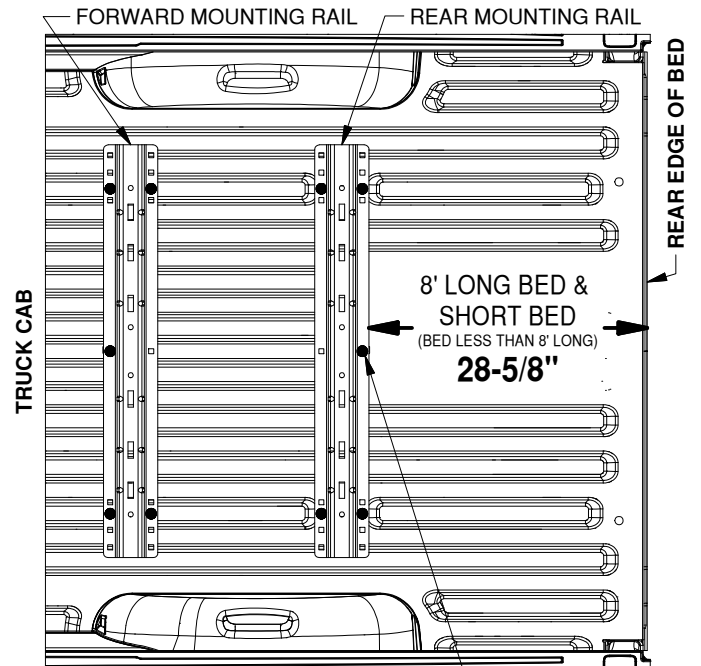

Figure B1: View over bed, showing drill locations for the forward and rear rails.
1. Layout the rear mounting rail. Place a mounting rail onto the bed of the truck. Hook a tape measure over the rear edge of the bed (not on any part of the tailgate), measure the location for the mounting rail as shown in Figure B1. Next, center the mounting rail in the bed by measuring the distance on either side from the edge of the rail to the side of wheel well. The rail will be centered when both measurements on either side of the rail are the same.
2. **Mark hole locations.** While carefully ensuring the mounting rail does not move, use a center punch tool to mark the 5 drill locations on the rear rail. See Figure B1 for hole marking locations for this installation (forward rails will install in a later step). Once all 5 rear rail locations are clearly marked, move the bed rail out of the way and drill each location with an 1/8" drill bit.
2. **Drill forward mounting holes.** Using the same methods as used for the rear mounting rail mark, drill, check, and enlarge the holes for the forward mounting rail. Refer to "ENLARGE HOLES & INSTALL SIDE PLATES" section, Steps 1 through 2, on previous page. Notice that the hole locations are slightly different than the rear rail, see Figure B1 (on the second page).